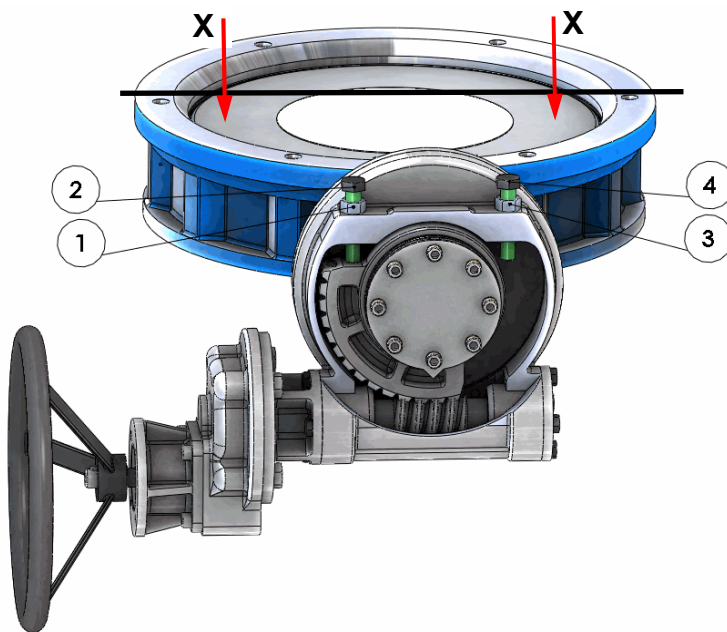

Fig. 6: Measuring distance.
- Turn valve into closed position, so that the disk is parallel to the seal. Right position checked by measuring the distance X from flange of the valve to the disk surface. (Fig. 6). The distance must be equal on both sides of the disk.
1. The limit switcher in the closed position must stop the turning of the disk when the disk is parallel to the seal. Ensure the correct position of the valve disk by measuring distance "X" (Figure. 6). The measure must be the same on both sides of the disk.